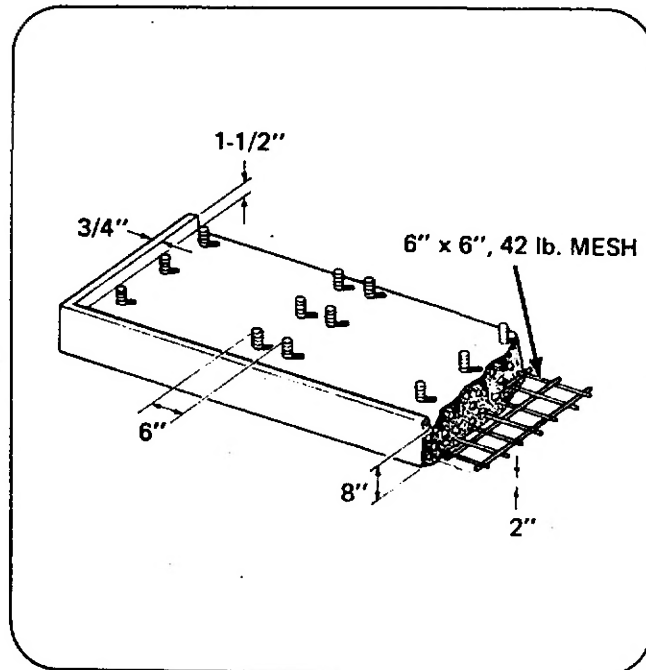

Figure 4
- Build a form around tie-bolts for slab, making provisions for 1-1/2 inch lip 3/4 inch wide, along the front and sides of the slab. See *Figure 4*.
- Place a 6 inch by 6 inch, 42 lb. road mesh into the form, supporting it approximately 2 inches from floor. See *Figure 4*.
- m. If more than one washer is being installed, mounting bolts for adjacent washers should be at least 6 inches apart. See Figure 4.